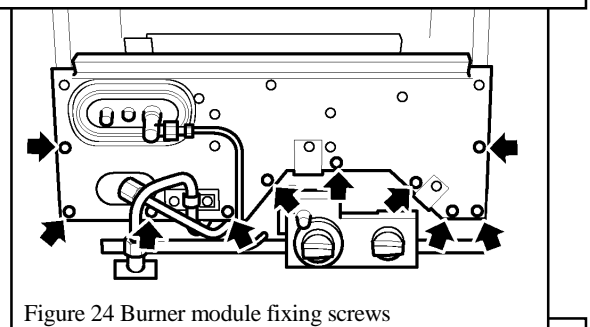

Figure 24 Burner module fixing screws
- Detach the burner front cover by unscrewing the 10 screws at the front of the burner module shown in figure 24.